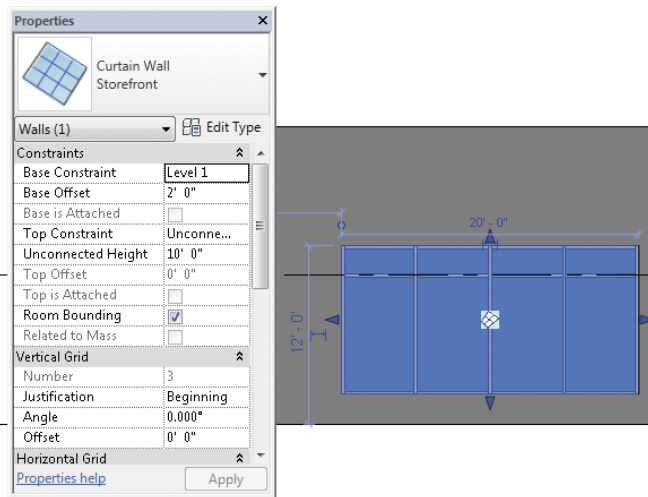

FIGURE 2.26 Curtain wall selected in wall
5. Open the South Elevation view. Select the curtain wall, and from the Properties palette change the Base Offset parameter to 2'-0" (610 mm). Next, change the Unconnected Height parameter to 10'-0" (3050 mm) (Figure 2.26).